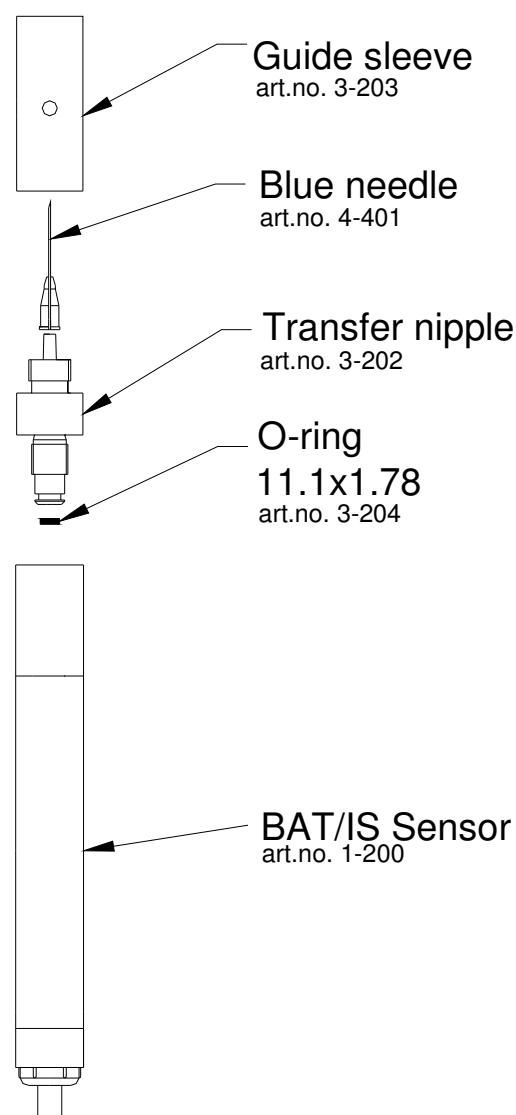

Figure 1a. The BAT/IS-sensor and its components.
The BAT/IS pressure sensor consists of the components shown in figure 1a. At delivery most components are already assembled.
- Prepare the BAT/IS-sensor according to figures 1a, 1b and 1c.